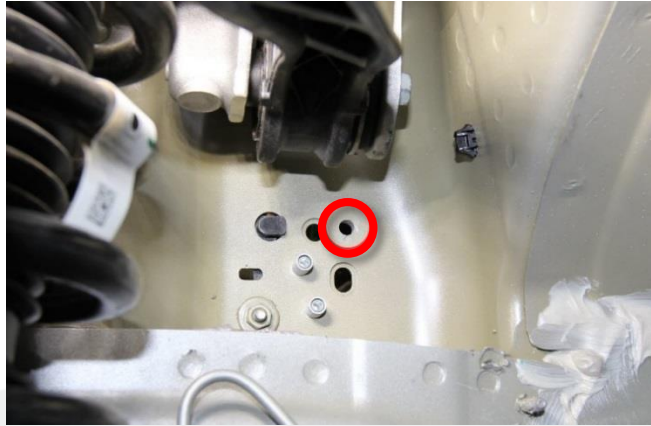

Figure 7
14. Drill out the upper rivet location with a 3/16" (4.76 mm) bit, and then drill out the same rivet location with a 17/64" (6.75 mm) bit (Figure 7).